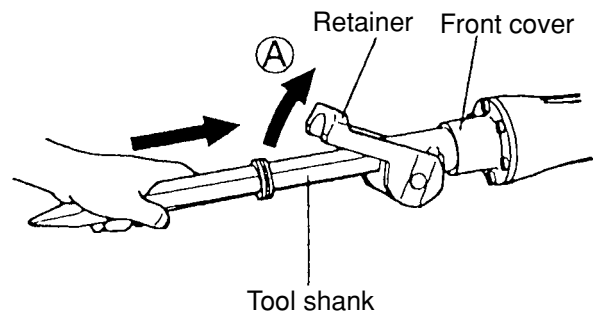
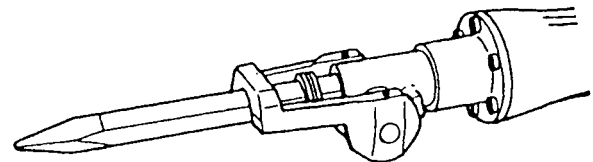

Fig. 8
Fig. 9
- (1) Mounting air tool shank tool and standard hex. shank tool
Raise the retainer in (A) direction and insert the tool shank into the hexagonal hole of the front cover as far as it will go (Fig. 8). Put the retainer back in position to fix the tool shank (Fig. 9).